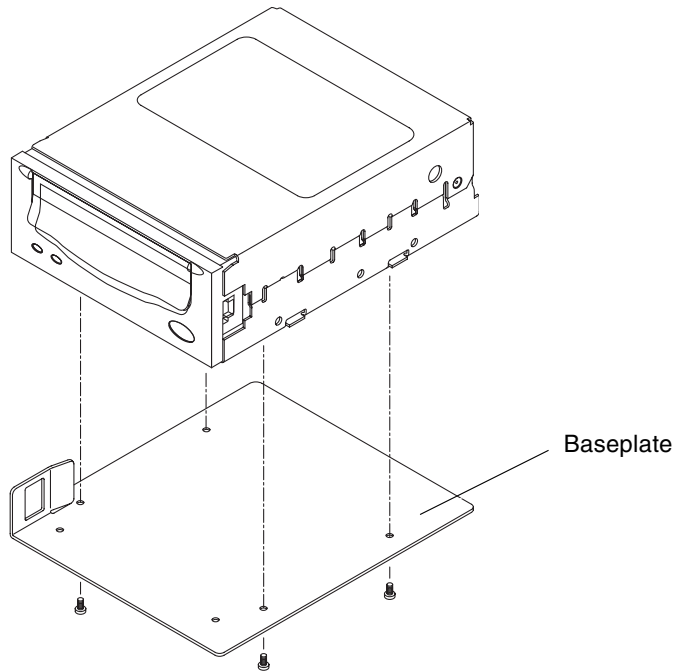

FIGURE 5-14 Assembling the Tape Drive
6. Line up the baseplate from the tape drive filler panel with the tape drive. Attach the baseplate to the tape drive. Use the four countersunk screws shipped with the drive (FIGURE 5-14).